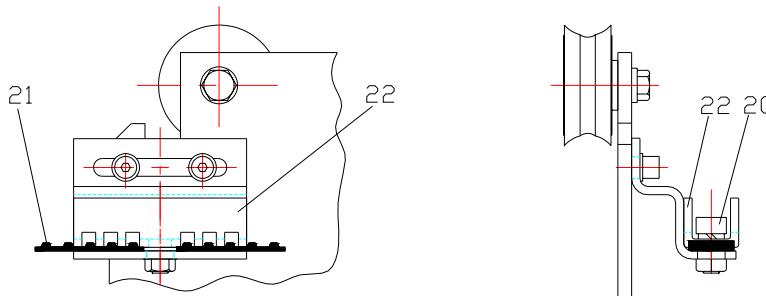

Figure 3.11
- 3 . Insert toothed belt(21) ends each with 3 teeth into belt clip (22)
- 4 . Tighten the screw(20) Fig. 3.11